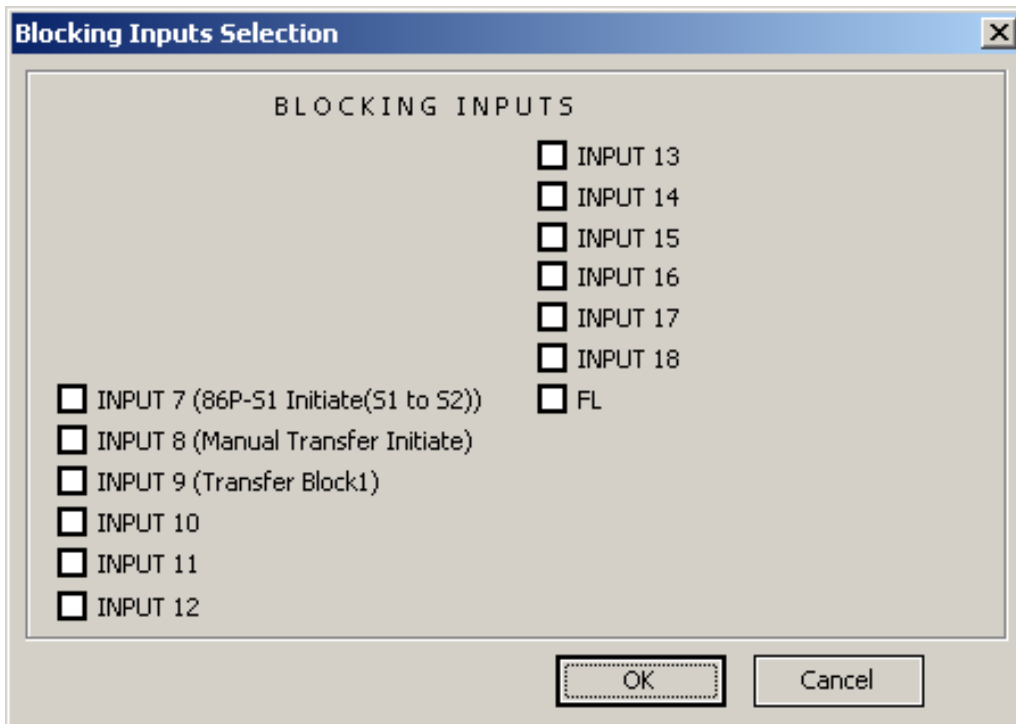

Figure 4-62 Residual Voltage Transfer Blocking Inputs Selection Dialog Screen
The Blocking Inputs Selection button opens the Blocking Inputs Selection dialog screen (Figure 4-62). Any Input or the Fuse Loss (FL) function can be selected to block a Delayed Residual Voltage Transfer. When an input is selected, it is not grayed out in other types of transfers.